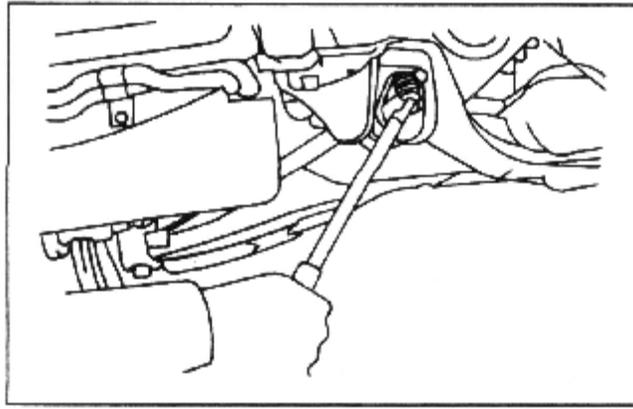

Figure 10-5-7 Adjustment of Caster
D. Adjustment of caster. If caster value is not within the specified range, turn the nut on support bar to adjust as shown in Figure 10-5-7. **Note:** Unscrew one of two nuts on the bearer of support bar, and then tighten the other nut at the opposite side in the same extent, caster therefore gets adjusted. When to adjust with nut on support bar, the nut should not be screwed up for more than 3 turns (original position as reference). Each turn of the nut indicates 30' caster change.